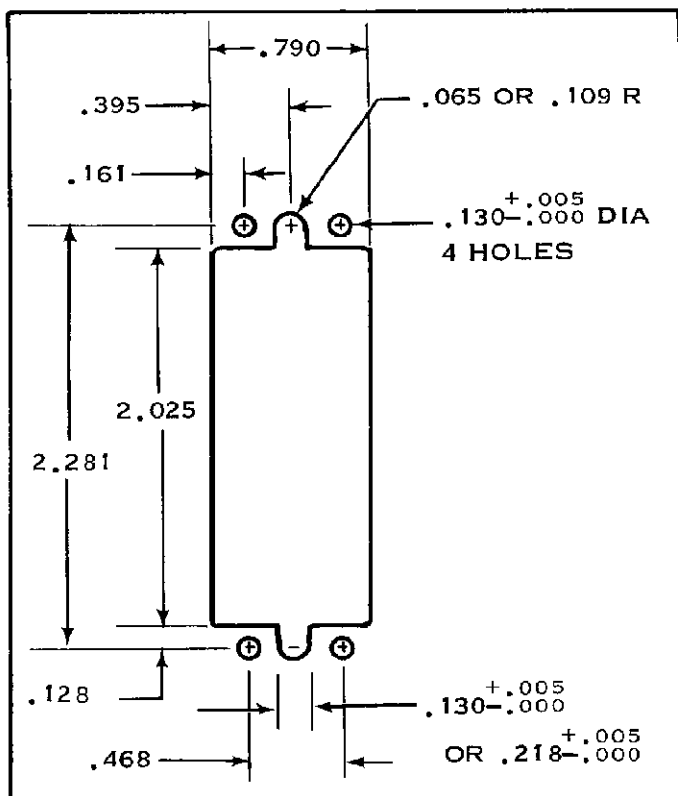

Fig. 2
- Make a cutout in the Panel using the Panel Cutout Dimensions in Figure 2.